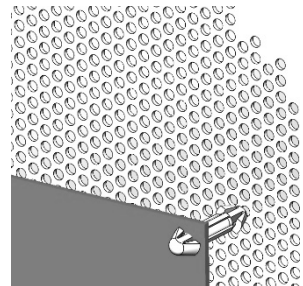

Figure 6a: Standoff fitting
- 3) Once positioning is correct, push standoffs into the selected hole positions, ensuring each one has locked in place (Figure 6a)